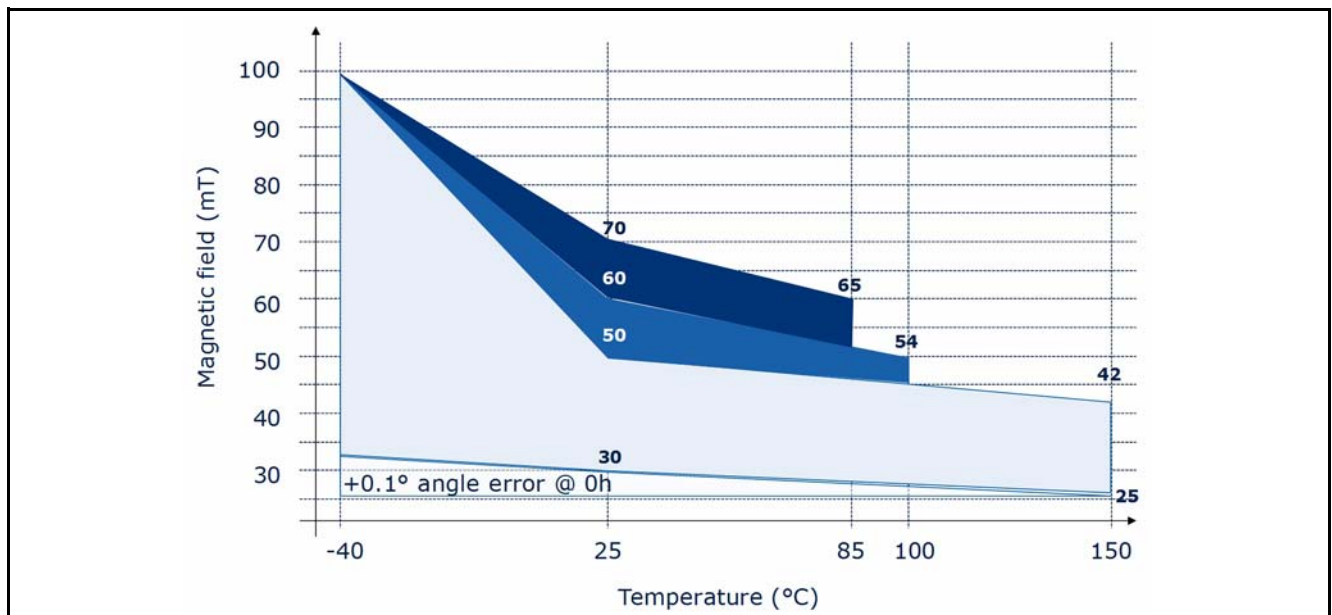

Figure 10 Magnet performance (ambient temperature)
- 5) See Figure 10
The field strength of a magnet can be selected within the colored area in Figure 10. By limitation of the junction temperature, a higher magnetic field can be applied. In case of a maximum temperature $T_J=100^\circ\text{C}$ a magnet with up to 60mT at $T_A=25^\circ\text{C}$ is allowed.